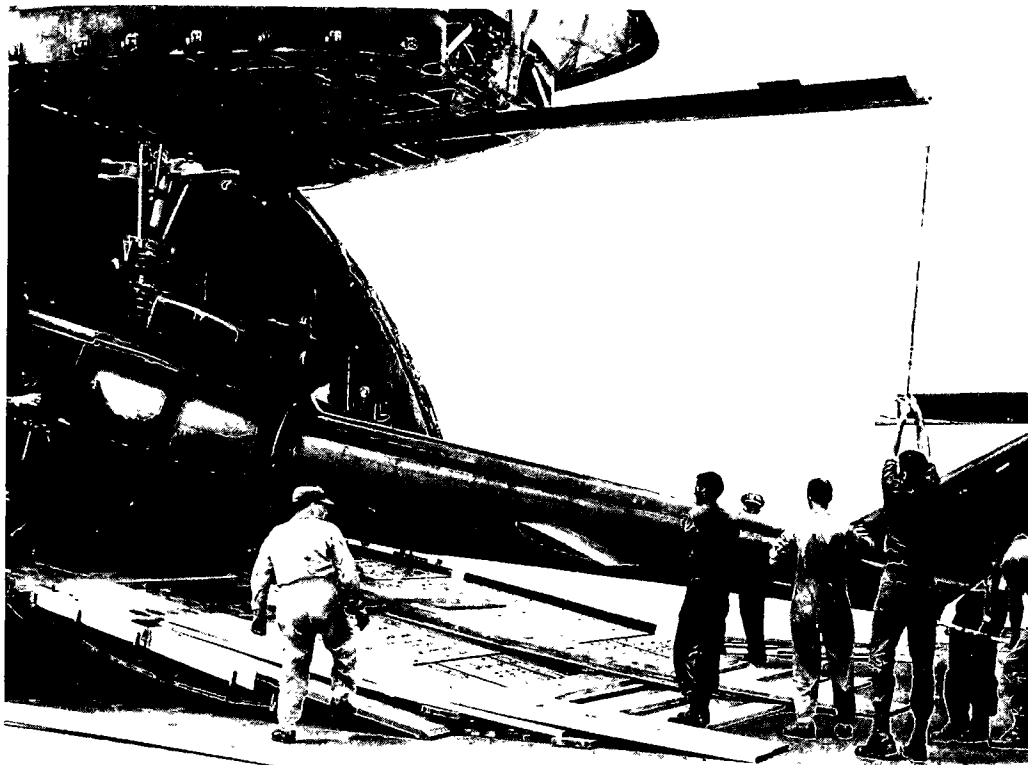

Figure 2-57. Loading team controlling the UH-1 helicopter as it is winched up the forward ramp.
(2) Station the 10-man loading team: four men at the empannage; two men at the cargo door opening; one man on top of the helicopter cabin to observe overhead clearance, to manipulate the rotor components to prevent contact with the airplane; two men to hold each rotor blade strap to control the blades; and the leader who moves about as best to observe the loading and give instructions as shown in figure 2-57.
(3) Winch the helicopter up the ramp into the airplane.
(4) The men at the empannage move the tail up or down as necessary to prevent contact with the airplane that could result in damage. They keep the tail raised until the helicopter is past the ramp hinge, then loading is halted.
(5) Unhook the winch cable, remove the towing bridle, and manhandle the helicopter to its tiedown location on the parking shoring.
(6) Remove the ground handling wheels.
(7) Load the remaining helicopters in numbered sequence.
(8) Back the ¼-ton truck up the forward ramp to its tiedown location.
(9) Manhandle the ¼-ton trailer up the forward ramp to its tiedown location. Place a small piece of shoring under the lunette.
(10) Drive the ¾-ton truck / trailer combination up the aft ramp to its tiedown location in the airplane.
(11) Load the three 463L pallets in their